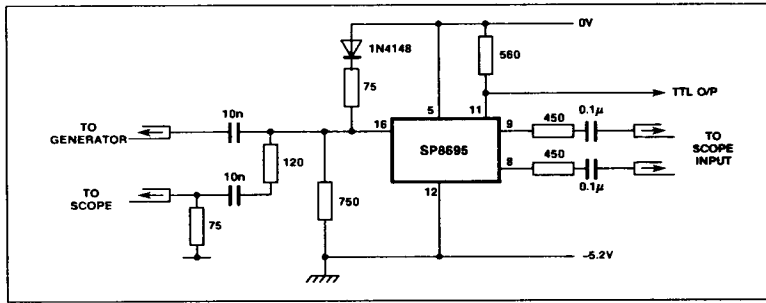

Fig. 6 Test circuit
- The clock inputs can be driven from ECL II, III and 10K. The input reference voltage (-3.8V at 25°C) is compatible with ECL II, III and 10K over the specified temperature range. The inputs can also be capacitively coupled by addition of external bias as shown in Fig. 6. Each input has an internal pull-down resistor of 10k, and unused inputs can therefore be left open circuit. They should be bypassed to RF where maximum noise immunity is required.
- The TTL/CMOS output has a free collector and the high state output voltage will depend on the supply that the collector load is taken to. This should not exceed 12V. The rise and fall time of the open collector output waveform is directly proportional to load capacitance and load resistance value. Therefore load capacitance should be kept to a minimum and the load resistor kept to a minimum compatible with system power requirements. In the test configuration of Fig. 6 the output rise time is approximately 10ns and fall time is 7ns typically.